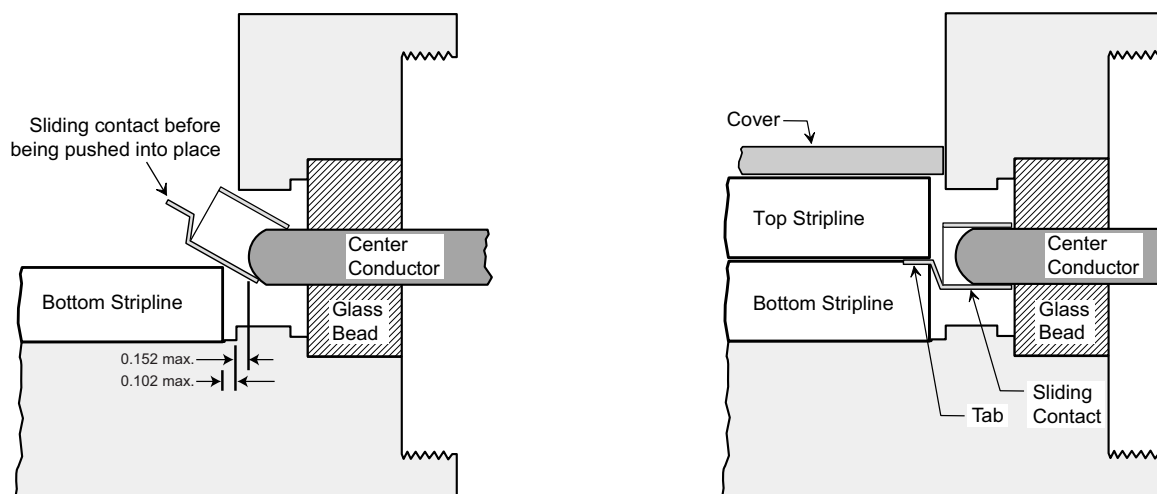

Figure 11-1. K110-2-R Sliding Contact Assembly, Method 1
The sliding contacts slip over the pin of the glass bead and mate with the microcircuit as shown in Figure 11-1 on page 11-2. The following is the recommended procedure for installing the sliding contacts and mating them with the microcircuit.
- b. Using the tweezers, place the K110-2-R onto the center pin and position as shown below in Figure 11-1, left.
- e. Install the top stripline. The finished assembly should resemble Figure 11-1 below, right.